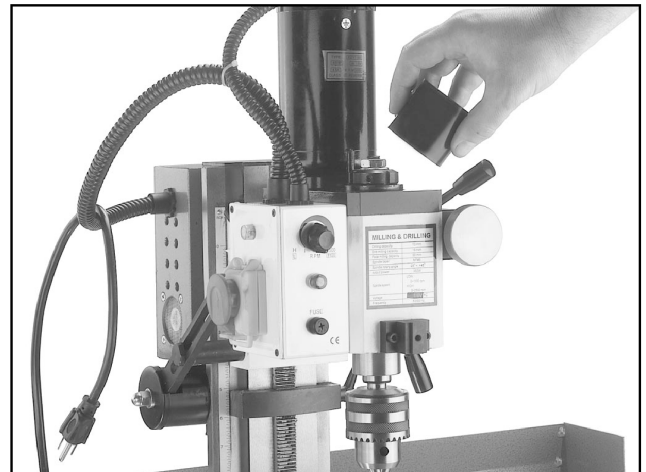

Figure 8. Removing mill / drill spindle cap.
2. Remove the mill / drill spindle cap as shown in **Figure 8**. *Note - if you cannot remove the cap off by pulling on it, give it a sideways bump with your hand.*